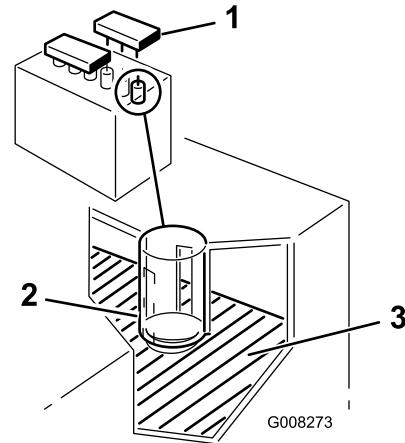

Figure 30
2. Remove the filler caps. If the electrolyte is not up to the lower part of the tube (Figure 30), add the required amount of distilled water; refer to Adding Water to the Battery.
2. Remove the filler caps (Figure 30).
3. Slowly pour distilled water into each battery cell until the level is up to the lower part of the tube (Figure 30).